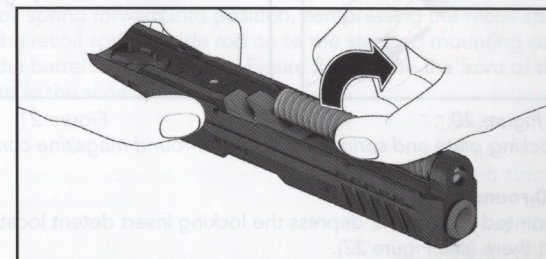

Figure 16 — Removing the recoil spring
4. Turn the slide upside down and carefully push the recoil spring forward and out to either the left or right hand side, separating the recoil spring from the barrel and slide (see Figure 16).